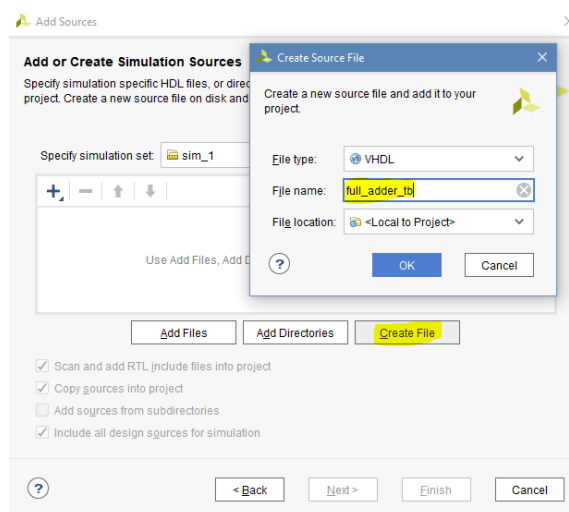

Figure 20 Create simulation source
1. On the window “Sources”, right-click on the folder “Simulation Sources”, click “Add sources...” and select “Add or create simulation sources”. Press “Next >”. Click on “Create File” and enter the name “full\_adder\_tb” in the field “File name” as shown in Figure 20. Press “OK” and then “Finish”. Optionally, in the next view fill in the field “Architecture name” with the value “testbench”. Press “OK”.